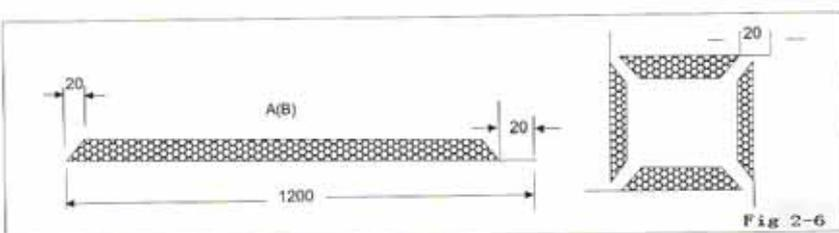

Fig 2-6
d. Technique (4): the single length A or  $B \leq 1140\text{mm}$ , take each panel by lengthways cutting then connect it. (Fig 2-6)